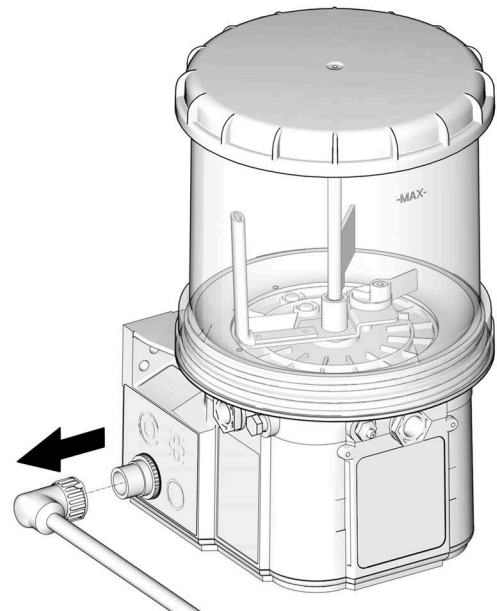

FIG. 25
**NOTE:** If battery disconnect is not available, remove the power cord (FIG. 25).